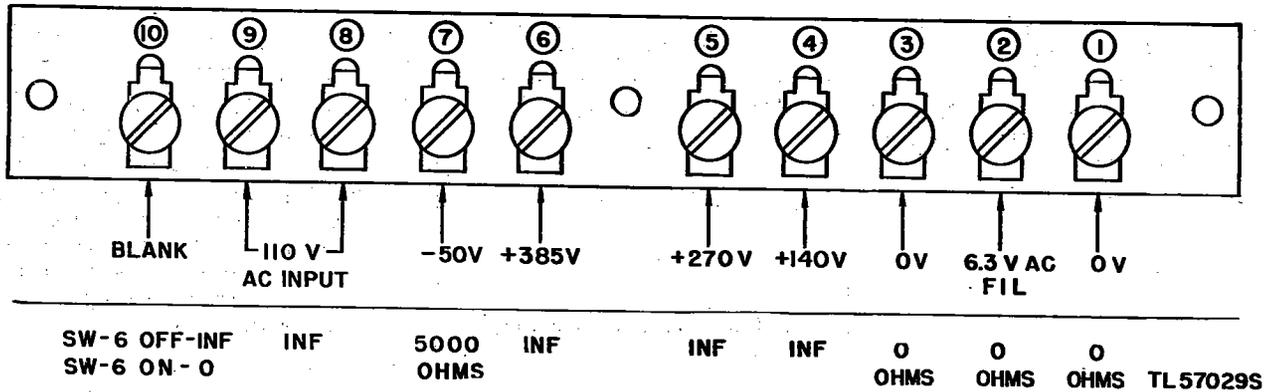

Figure 36. Receiver terminal strip, voltage and resistance measurements.
*c.* If no abnormal indication appears, measure the voltage and resistance between the terminals of terminal strip E4 and the receiver chassis (fig. 36). Correct readings will indicate that the power supply